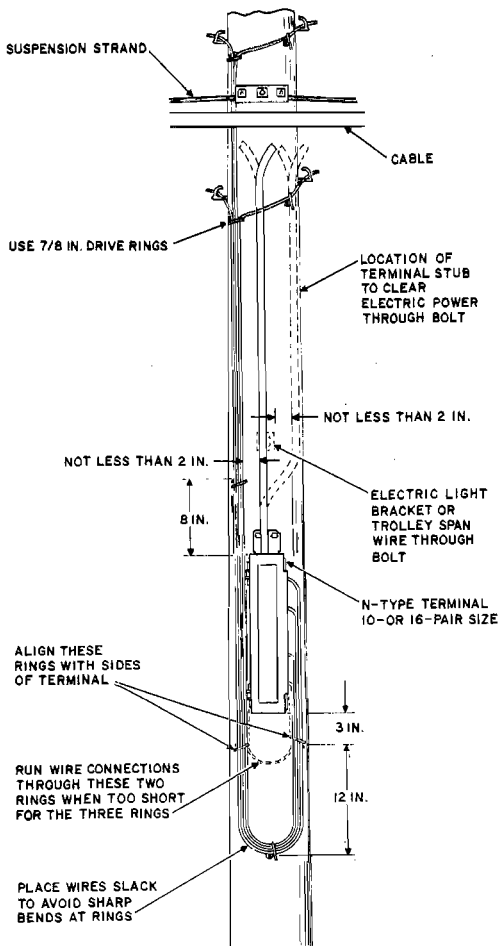

Fig. 6—Running Drop Wire to 10- or 16-Pair N-Type Terminal Mounted on Pole
2.07 Refer to Fig. 6 and 7 for typical arrangements of drop wires at N-type terminals which are mounted on poles.